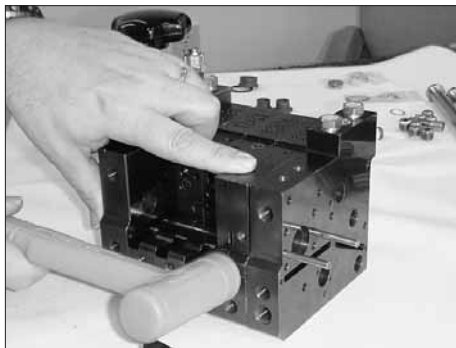

Figure 7-74 Installing pumps
4. See Figure 7-74. Starting from the right (as you are facing the pump side of the applicator), install the pumps. This may require the careful use of a rubber mallet or dead-blow hammer.